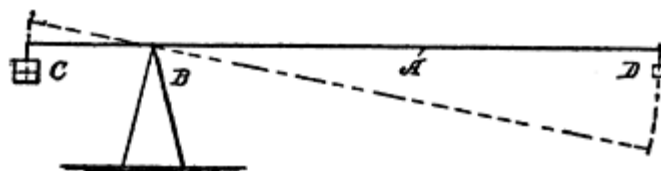

Fig. 126. Simple Lever
In Fig. 126 is a lever (A), resting on a fulcrum (B), the fulcrum being so placed that the lever is four times longer on one side than on the other. A weight (C) of 4 pounds is placed on the short end, and a 1-pound weight (D), called the *power*, on the short end. It will thus be seen that the lever is balanced by the two weights, or that the *weight* and the *power* are equal.